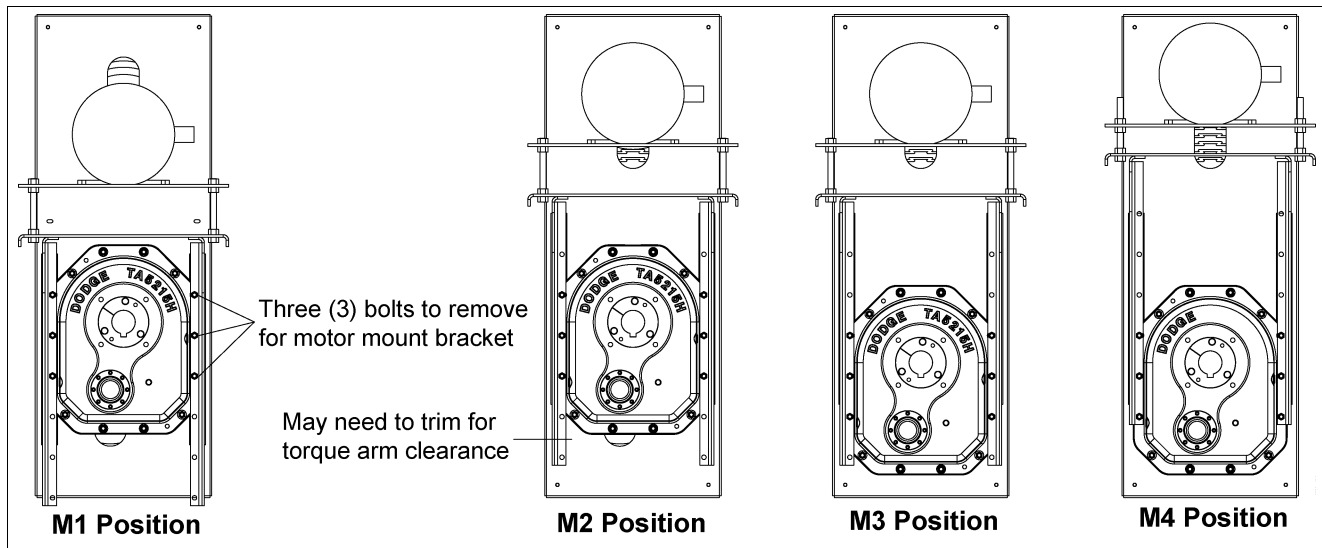
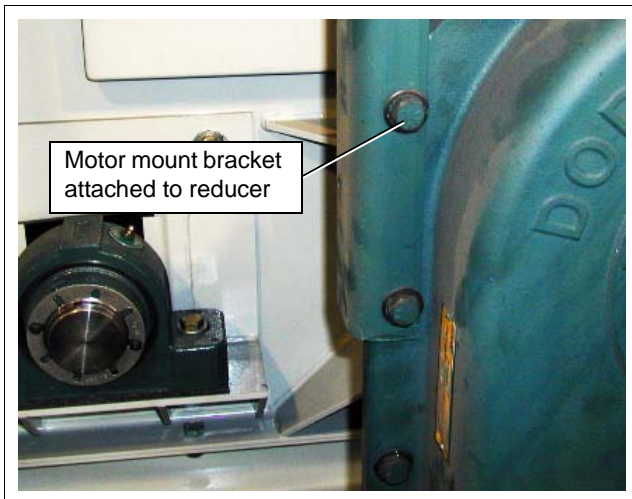

Figure 6R
Figure 6S
Remove three (3) bolts from each side of the reducer housing. Use a set of holes in the motor mount upright brackets that allows the motor plate to be as close as possible to the top of the conveyor. (See Figure 6S.) Check this location by temporarily positioning the belt guard on the reducer with the hole in the guard centered over the reducer input shaft. This will show the correct motor position for the lengths of V-belts provided. Attach by replacing bolts through brackets and housing. Tighten bolts securely. (NOTE: Motor mount angle may have to be trimmed for torque arm.) (See Figure 6R on Page 23.)